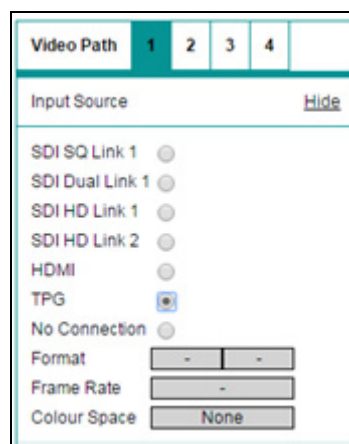

Figure 18: Input Source Selection
- Select the **TPG** option for this demonstration as shown in Figure 18. This selects the built in Test Pattern Generator.